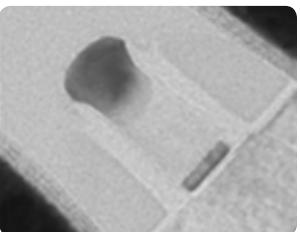

Figure 2. TEM of a 32nm gate-first HKMG device. Image courtesy of GLOBALFOUNDRIES
A. Both technologies utilize the wave-like nature of light. The thin-film stacks are designed and integrated in such a way that each layer alters both reflected light as well as the light passing through it. Working in concert, the layers have the combined effect of changing the display's overall visual appearance as desired. In the case of anti-reflective coatings, such cooperation among the layers is called destructive interference, which means the reflected light's intensity is decreased in the visual range. In the case of invisible ITO, the film stacks are designed to achieve a light interference that produces a minuscule visual difference between the zones with conductive ITO and without conductive ITO. This difference is indistinguishable to the human eye, both in intensity and hue. (See figure 2.)
Figure 2. Invisible ITO for projective capacitive touch screen technology. Good index-matching is possible with thin ITO layers, resulting in the ability to produce "invisible" ITO electrodes. R_{ITO} (reflectance of ITO) and R_{Etch} (reflectance of etched area) refer to the fact that the ITO is partially etched for patterning, and in the etched area the structures become visible. There is a difference in the reflection of the ITO layer compared to the etched sections, and a key property for the ITO layer stack is the invisibility of the etched structures, both in transmission and reflection, for a uniform visual experience.
Strained silicon, for example, requires new epitaxial deposition steps, and high-k/metal gate technology (see figure 2) serves to reduce gate leakage while adding atomic layer deposition (ALD). The drive to 20nm and 14nm will add